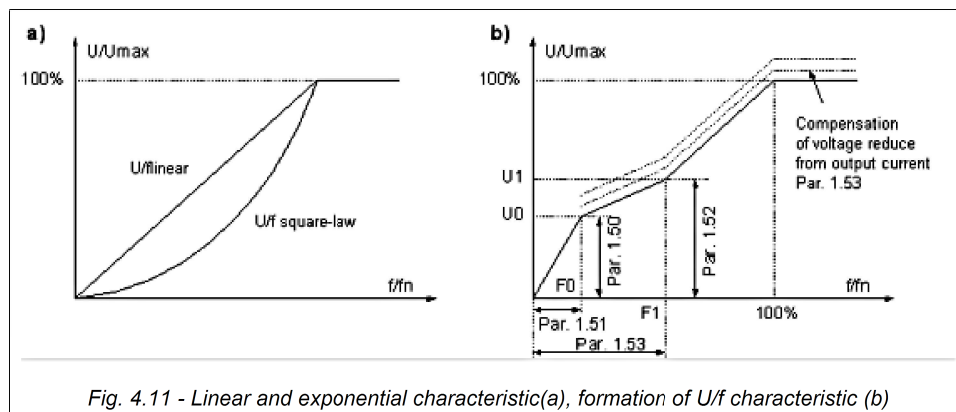

Fig. 4.11 - Linear and exponential characteristic(a), formation of U/f characteristic (b)
- Mode U/f linear. It is used if there exists a constant torque of loading which does not depend on speed (see fig. 4.11).
- Mode U/f exponential. It is used if the torque of loading grows under the exponential from speed (e.g. the electric drive of the fan). Use of exponential characteristic U/f cause reduction of noise and decrease of losses in the motor (see fig. 4.11).